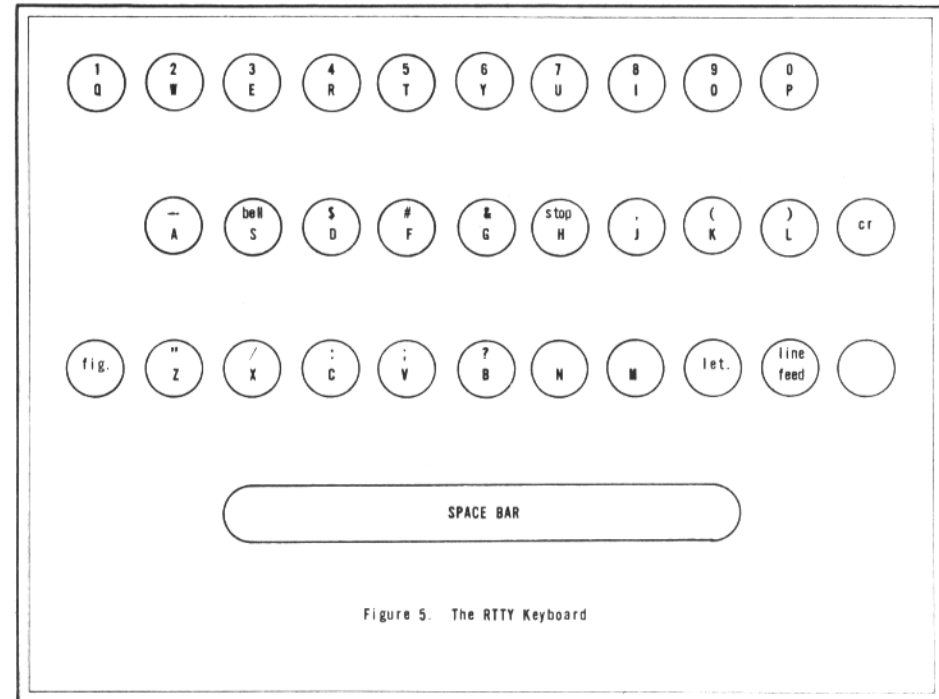

Figure 5. The RTTY Keyboard
The RTTY (Radio TeleTYpe) keyboard is arranged as shown in Figure 5. Each key, when depressed, allows the distributor to send a seven-unit pulse corresponding to the function selected. The keying action is obtained by a rotating eccentric cam, which opens a pair of normally closed contacts. When the contacts are closed, current can flow. This is called the mark condition. When the contacts are open, current does not flow and the space condition exists. Another type of keyboard uses a diode matrix to obtain the coded pulse. The matrix eliminates the moving parts, and reduces the mechanical requirement to a single lever-operated switch per operation. Williams described the construction of a matrix keyboard from a discarded electric typewriter. (1)